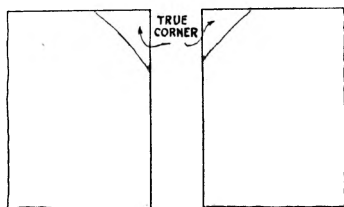

Fig. 41
2. Cut two boards a little longer and wider than the book. Both boards should have one corner square with one straight edge and the true corner marked as in fig. 41.